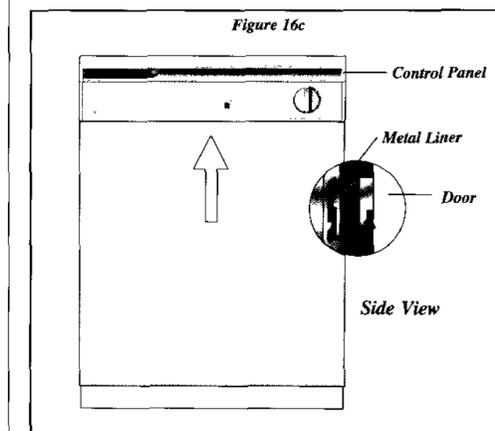

Figure 16c
5. When ready to replace door, fit the slots on each side of top door edge over the tabs on the metal liner. Push on sides to insure the door is flat. Push up from bottom until there is no gap between door and control panel. See Figure 16c.